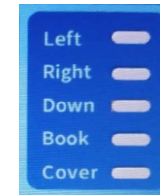

Figure 12
7.1.2 The sensor status bar mainly displays the status of each sensor, that is, whether each state is detected by the sensor. As shown in Figure 12.